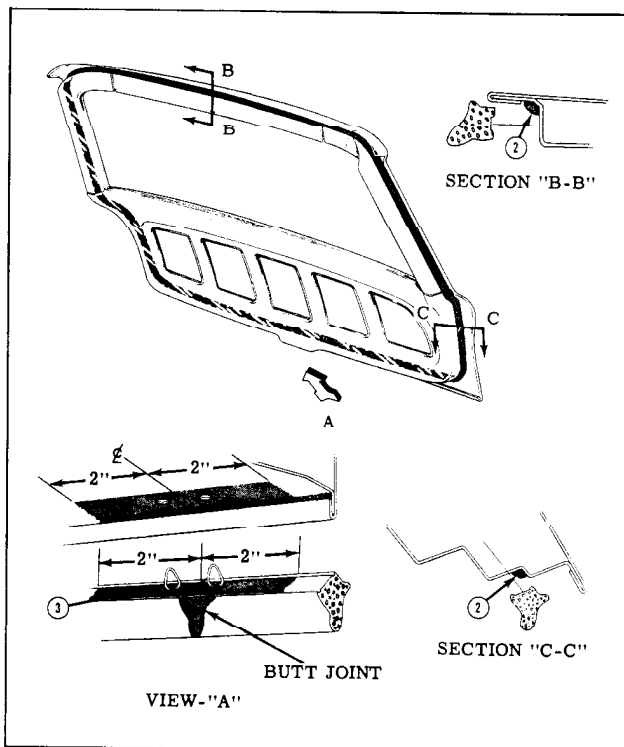

Fig. 15-58 Back Door Weatherstrip Installation
3. For a distance of 2 inches on both sides of the butt joint location (bottom center of door), apply weatherstrip adhesive (neoprene type) to the door panel surface contacted by weatherstrip (See "1" in view "A", Fig. 15-58)
4. Apply a bead of weatherstrip adhesive (black) in the corner of the rabbet, as shown at "2" in Sections "B-B" and "C-C" in Fig. 15-58, completely around door.
5. For a distance of 2 inches on both ends of weatherstrip, apply a coat of weatherstrip adhesive (neoprene type) to the weatherstrip surface which contacts the door panel as indicated at "3" in view "A" Fig. 15-58.
7. Apply weatherstrip adhesive (neoprene type) to butt ends of weatherstrip and cement ends together to form an even butt joint. (See view "A" Fig. 15-58)